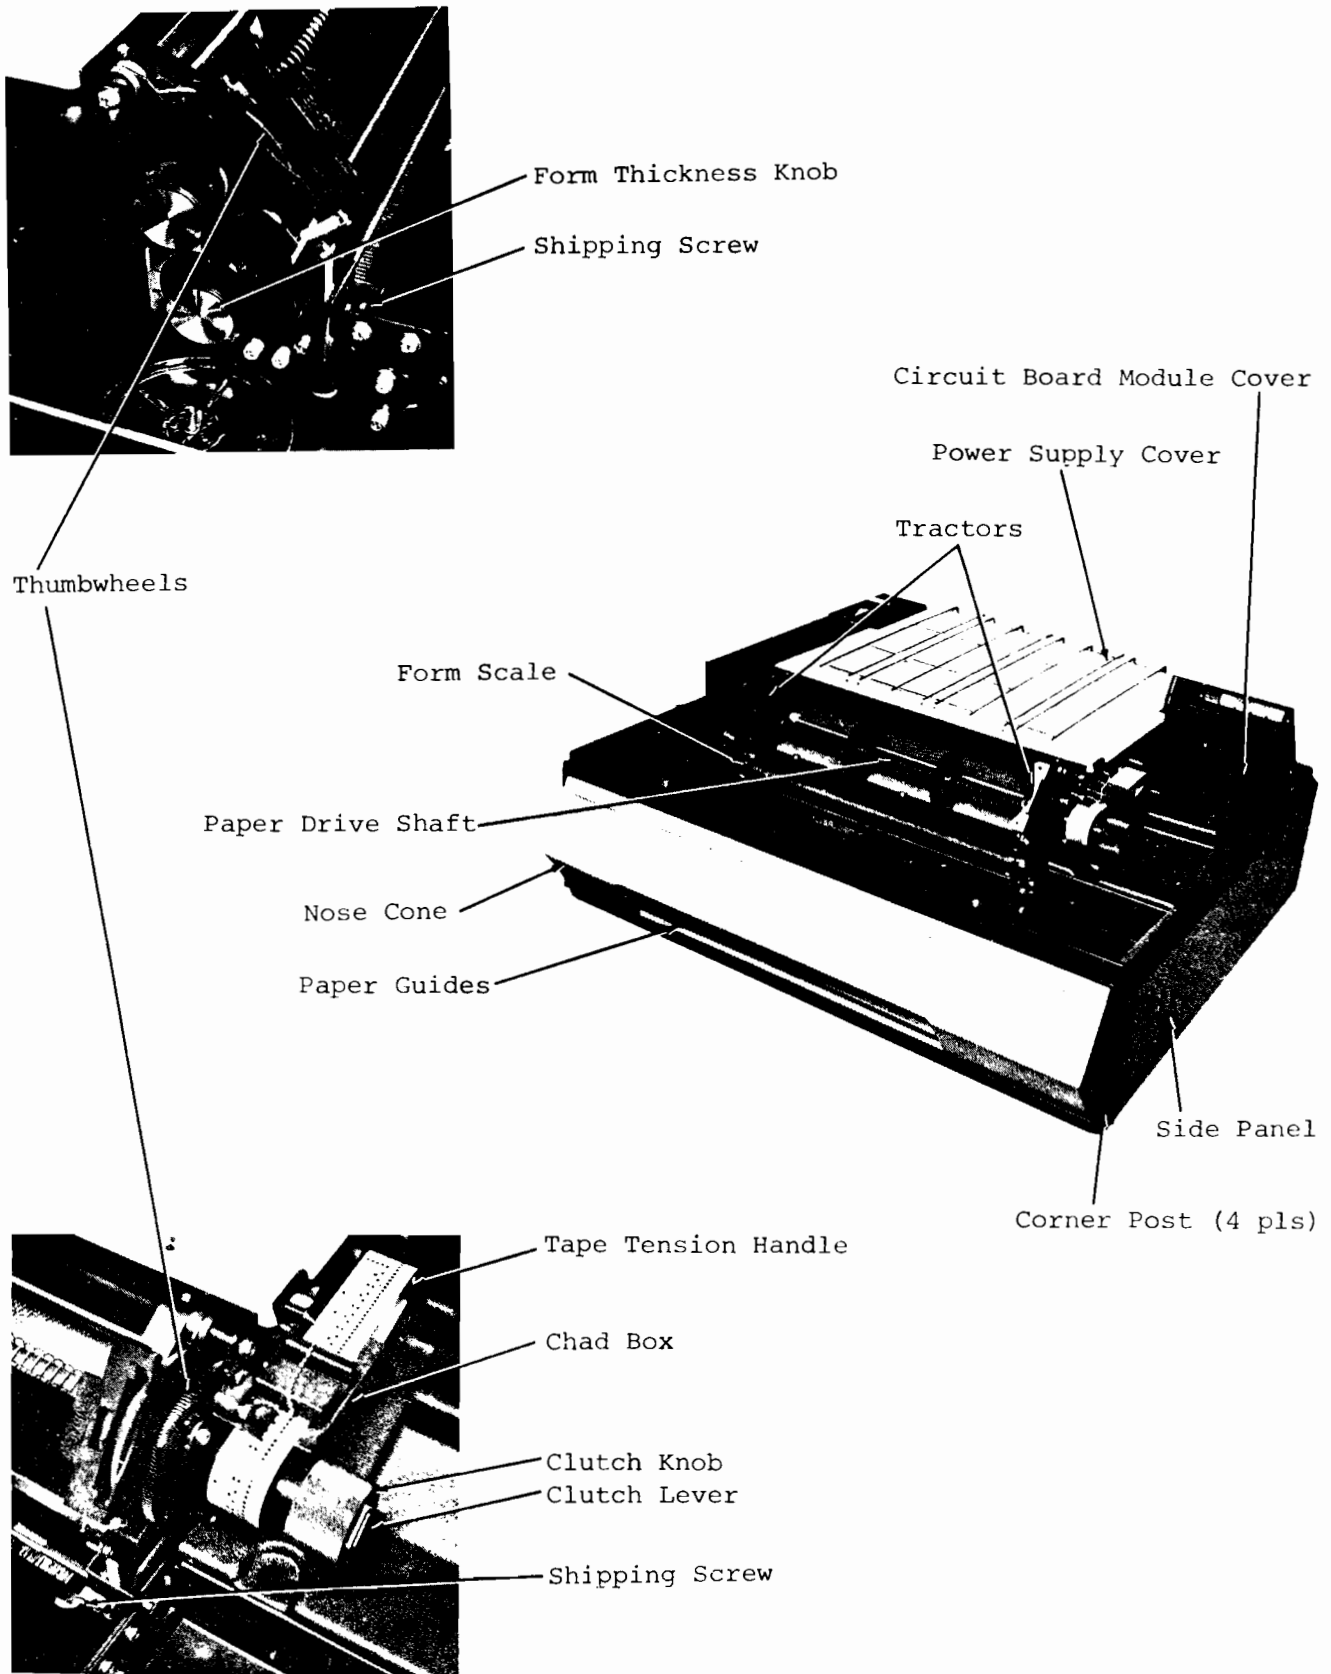

Figure 5-2. Printer Controls Location
5-10 Power Supply Cover (figure 5-2).
5-11. Circuit Board Module Cover. To facilitate removal of this cover turn the clutch knob (figure 5-2) until the protruding end of the clutch cam lever is facing up. Pull the two cover fasteners straight up until they disengage and remove the cover. When replacing the cover be sure the fasteners are pulled up and the rear edge of the cover is under the front edge of the switch bracket before securing it.
- e. Pull the VFU tape tensioner (figure 5-2) forward.
5-17. Paper Drive Shaft and Gear. Remove the paper drive shaft (figure 5-2) and gear as follows:
- f. Tighten the two shipping screws (figure 5-2) on the print mechanism. On units not having shipping screws, install and tighten the shipping blocks provided in shipment.